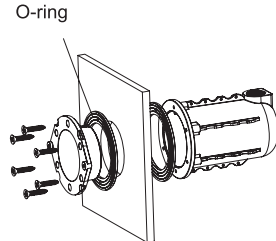

Figure 9
3. Place the o-rings between the Mounting ring and the pool wall and tighten it with the Nut on the other side of the pool wall (Figure 9).